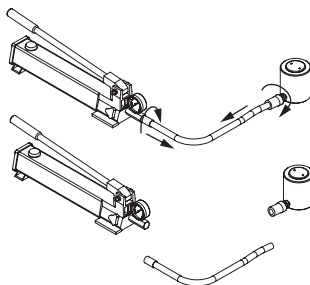

Fig. 28
5. Unscrew hydraulic components, hose, cylinder and hand pump, fit dust protection caps. (Fig. 28)